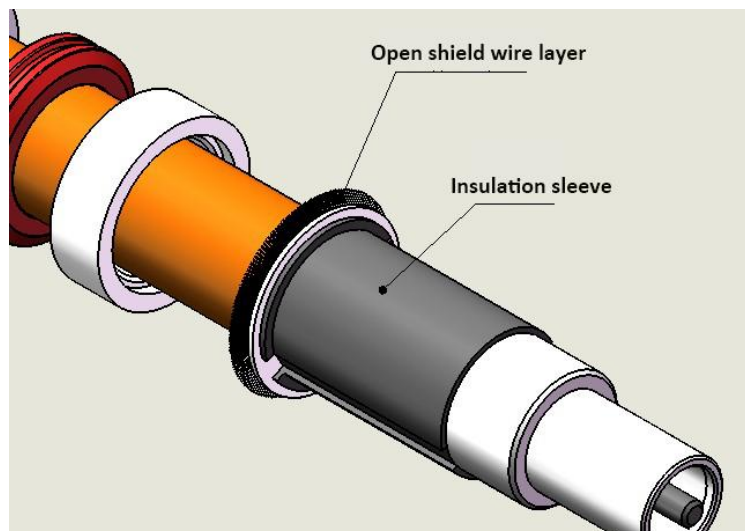

Figure 8
3.1.4 The shielding line should be protruded 2-3mm, and then the excess shielding line should be reduced, as shown in Figure 8.